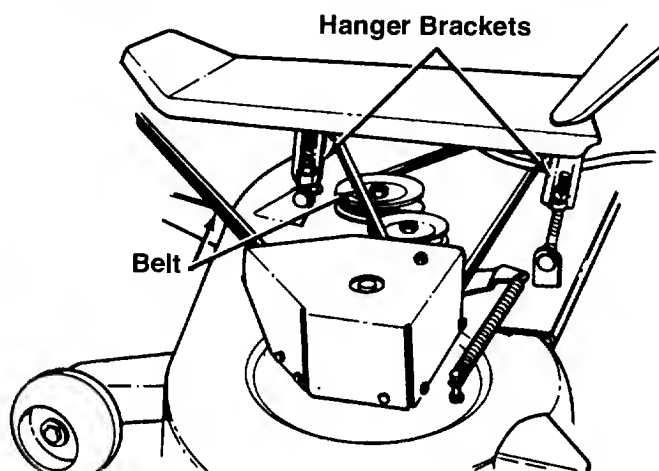

FIGURE 6.
6. Attach the four tractor hanger brackets to the deck as follows. The left front tractor hanger bracket goes through the center of the V-belt. See figure 6. Attach the rear hanger brackets first, then the front, using four flat washers and hairpin clips.